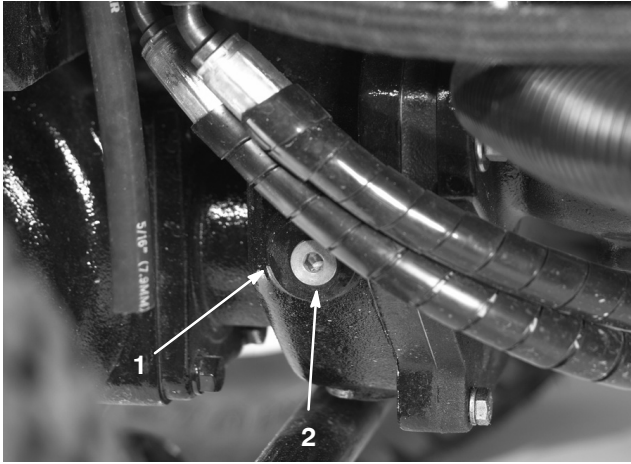

Figure 9
- Remove the check/fill plug from the left side of the gear box (Fig. 9) and make sure that lubricant is up to the bottom of the hole. If the level is low, add enough lubricant to bring the level up to the bottom of the hole.